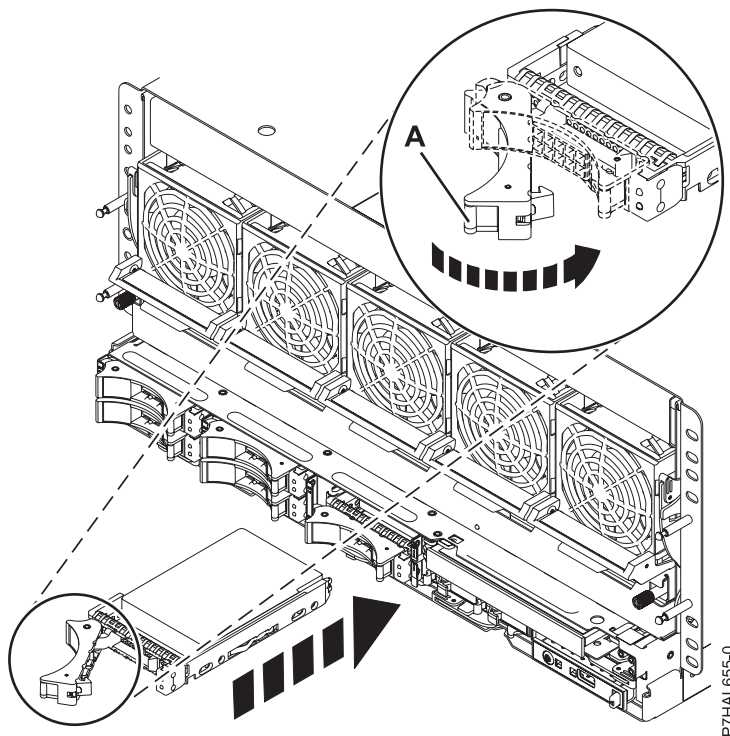

Figure 22. Replacing a disk drive in the system
7. When the identify LED turns on solid, slide the disk drive or solid-state drive all the way into the system or an expansion unit, and push the drive handle **(A)** in until it locks, as shown in Figure 22.